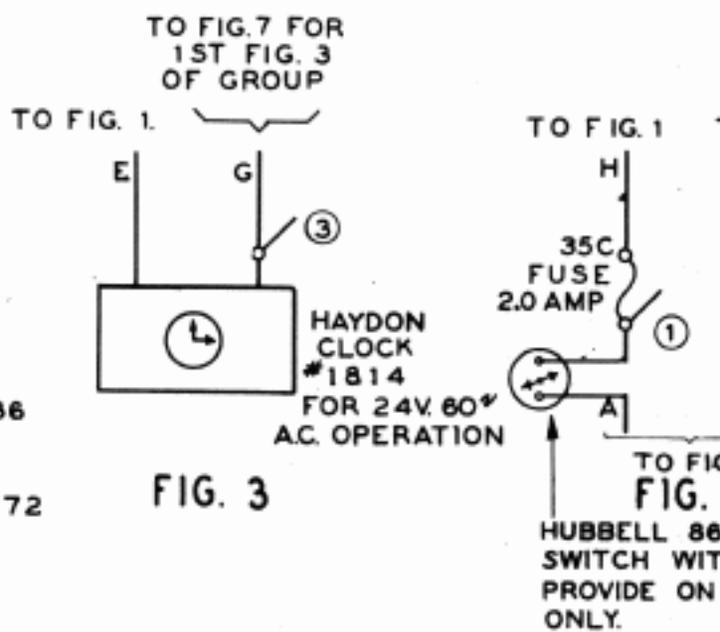

FIG. 3
- ③ MULTIPLE TO G LEAD OF 2-6 FIGS. 3 OF SAME GROUP.
- ④ MULTIPLE TO G LEAD OF 1ST. FIG. 3 OF OTHER GROUPS.
- ⑤ USE X WIRING TO MEASURE USED TIME. USE Y WIRING TO MEASURE IDLE TIME.
⑥ THEORY SCHEMATIC